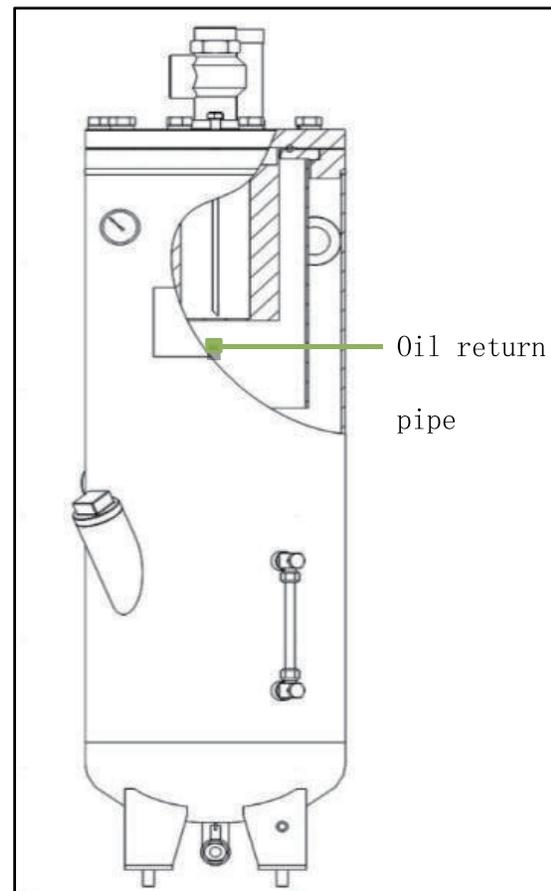

Figure 6-3
5. Turn the lid bolt to move the upper cover up for a distance and turn the upper cover (Figure 6-3).